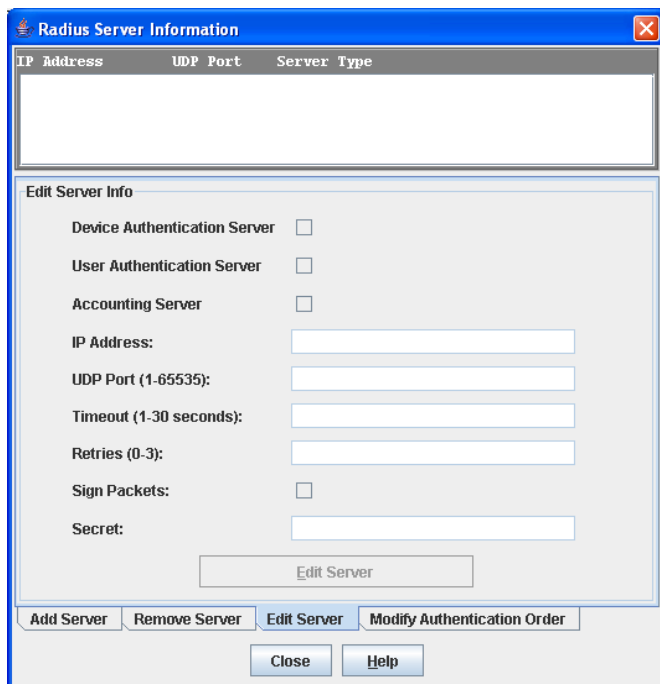

Figure 24 RADIUS Server Information dialog—Edit Server tab page
2. Click the **Edit Server** tab in the Radius Server Information dialog shown in Figure 24.